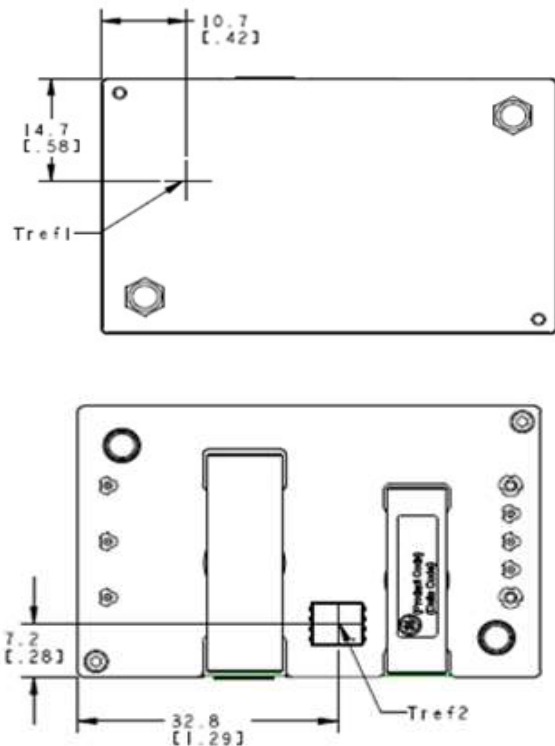

Figure 15. T_{ref} Temperature Measurement Location for coldwall applications version.
The thermal reference points, T_{ref1} , and T_{ref2} used in the specifications is shown in Figure 15. For reliable operation these temperatures should not exceed 100° C & 125°C respectively.